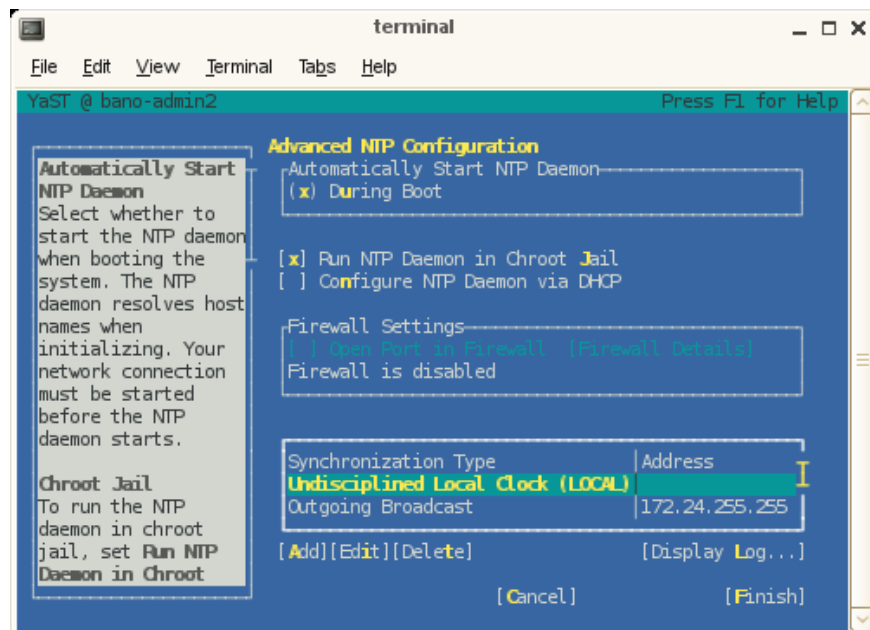

Figure 2-29 Advance NTP Configuration Screen
14. Configure NTP time service as shown in Figure 2-29 on page 72. The example provided is for SLES10 SP2. SLES11 is similar. For RHEL 5.3, you need to configure `ntp` by hand after the `ntp.conf` file is put into place. Click **Next** to continue.